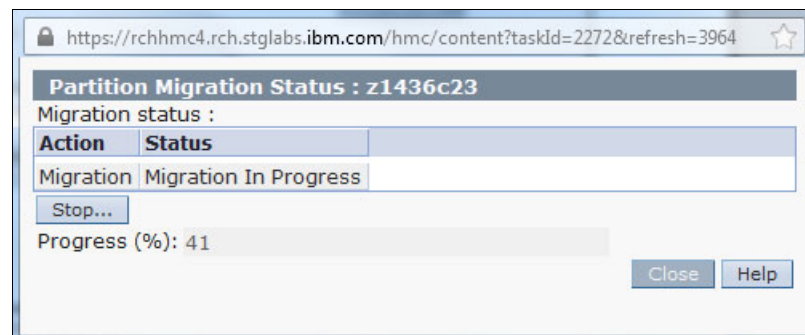

Figure 5-16 Live Partition Mobility, migration status
- During the migration, a status window displays the progress, as shown in Figure 5-16.